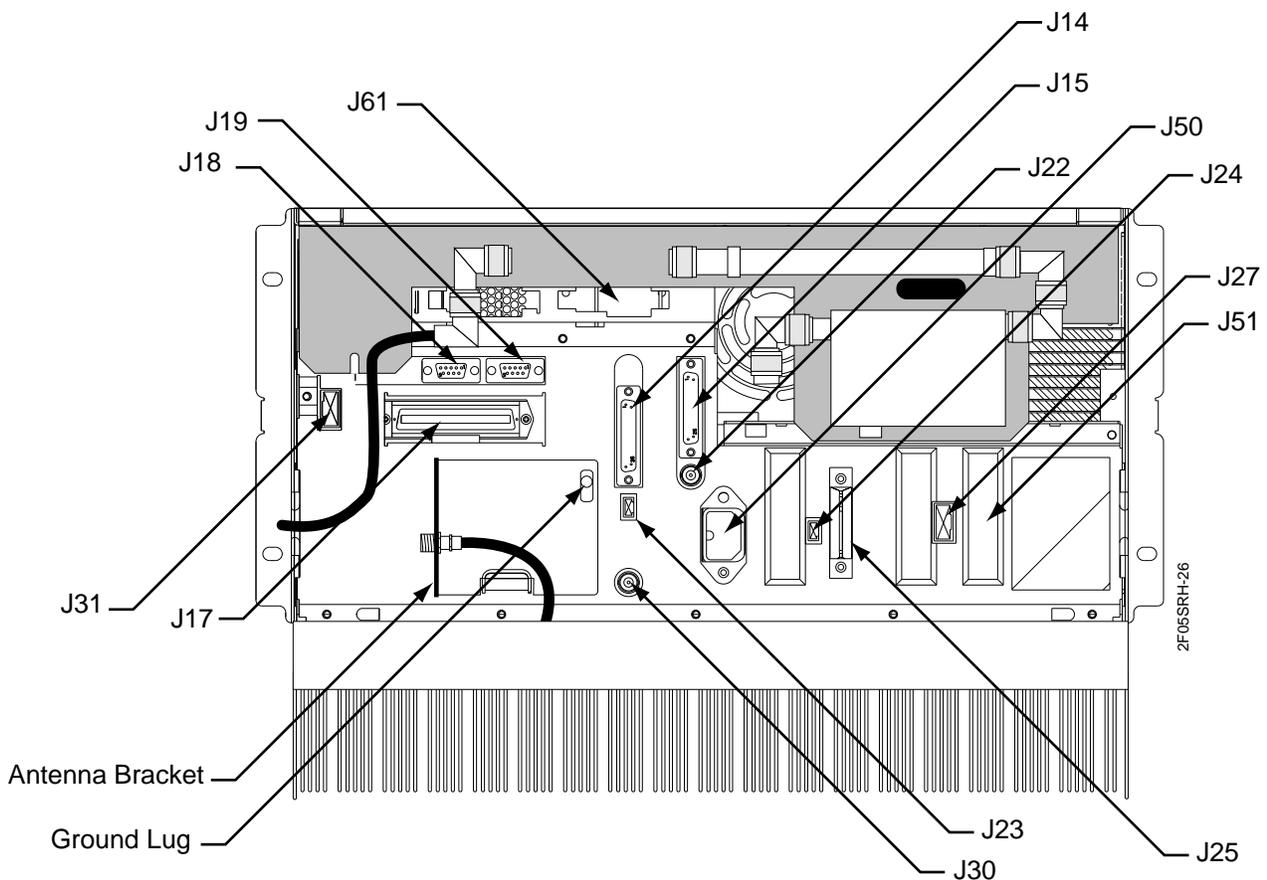

Figure 5-1: Backplane Connectors for a High Power Station (with Circulator Option)
- High power station (see Figure 5-1 and Table 5-1)